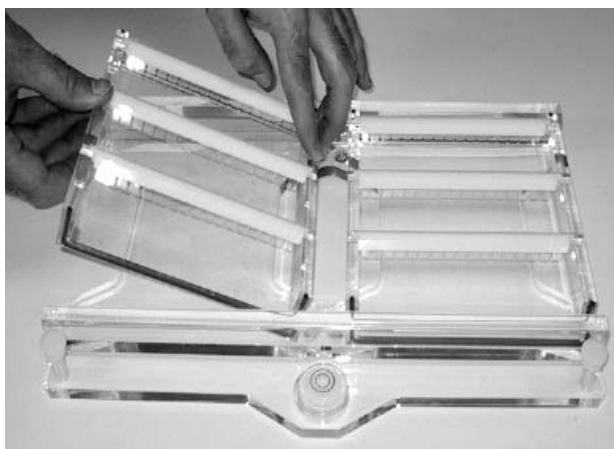
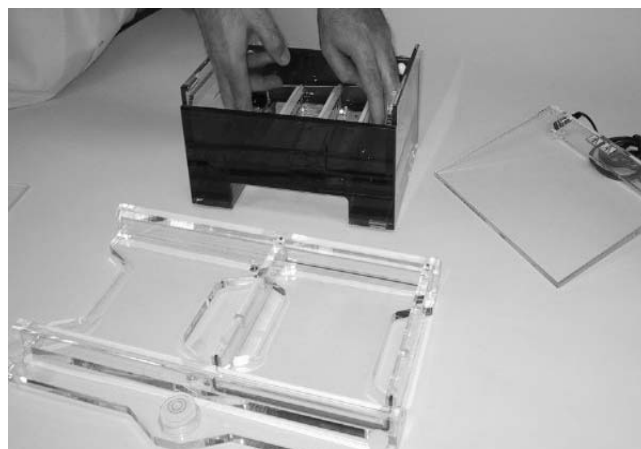

Figure 5-1. Casting Position
Figure 5-2. Running Position
1. Once the gels are completely solidified, lift one tray out of the casting chamber (Figure 5-1), and place it in the buffer chamber (Figure 5-2), with the first comb closest to the cathode (black) side of the chamber. The running position exposes the open ends of the gel tray and the agarose to the buffer. Standard agarose should solidify completely in about 30 minutes. If low melting point or a specialty agarose is used, consult the instructions supplied with the product.